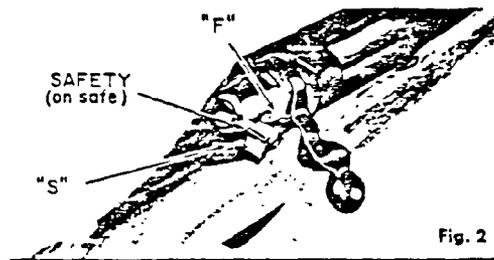

Fig. 2
**SAFETY (Fig. 2)** — Side lever type safety is located at right rear of receiver. Close bolt and rotate safety to rear stop position marked "S" on receiver. In this position, trigger cannot be pulled to fire rifle and bolt handle cannot be raised to unlock and open action.